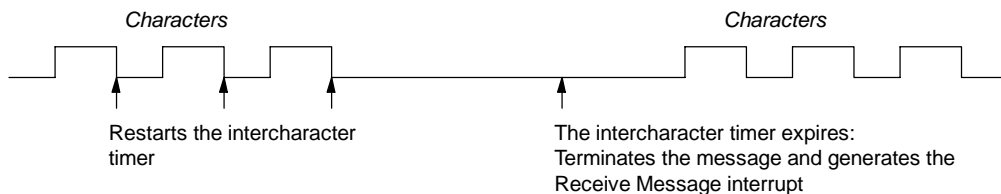

Figure 6-12 Using the Intercharacter Timer to Terminate the Receive Instruction
2. *Intercharacter timer*: The intercharacter time is the time measured from the end of one character (the stop bit) to the end of the next character (the stop bit). If the time between characters (including the second character) exceeds the number of milliseconds specified in SMW92 or SMW192, the receive message function is terminated. The intercharacter timer is restarted on each character received. See Figure 6-12.